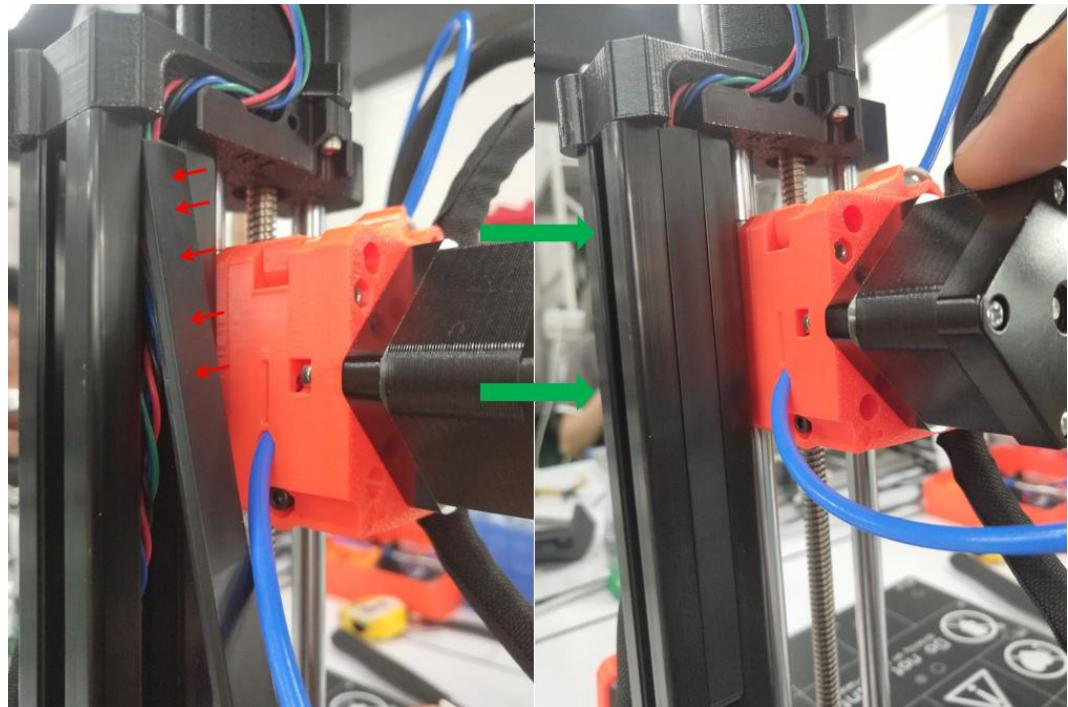

Figure 4.2.5
**Step 4-2-5:** As shown in Figure 4.2.5, insert the aluminum profile cover into the profile groove to wrap the cable.